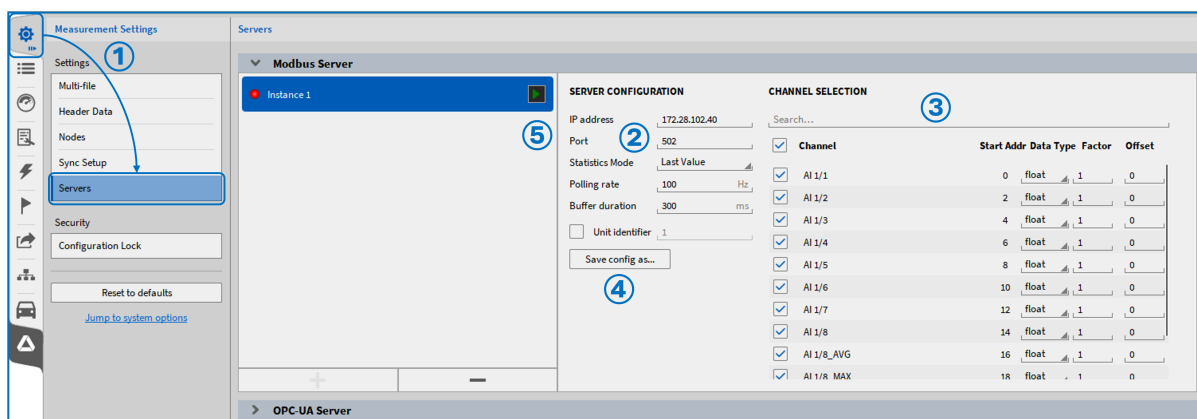

Fig. 5.1: Activate a MODBUS Server in OXYGEN
- Navigate to Measurement Settings > Servers (See ① in Fig. 5.1)
- Configure the MODBUS Server parameters (See ② in Fig. 5.1)
- Select the channels to be published for MODBUS Clients (See ③ in Fig. 5.1).
- Store the set configuration as .xml for MODBUS Clients (See ④ in Fig. 5.1).
- Click the Play button to start the server (See ⑤ in Fig. 5.1).
(See ② in Fig. 5.1)
(See ③ in Fig. 5.1)